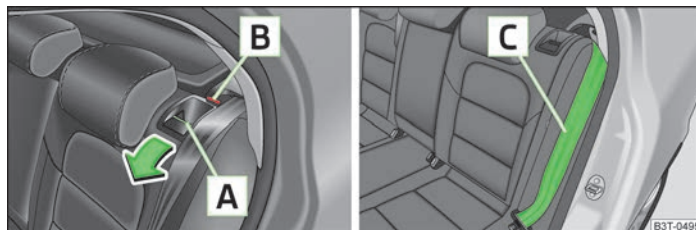

Fig. 60 Unlock the seat backrest/lock the seat backrest
- Unlock the seat backrest by pressing the unlocking handle **A** » Fig. 60 and fold it completely forwards.
- Place the rear outer seat belt **C** » Fig. 60 behind the edge of the side trim panel.